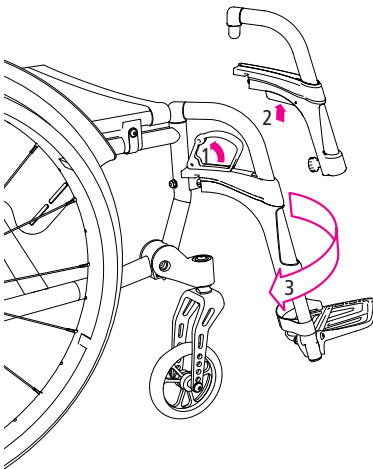

Fig. 19
2. To release the leg rest lock pull on the lever (1, Fig. 19) or press the button mechanism (2, Fig. 19).
3. The leg rests can now be swivelled outwards (3, Fig. 19).